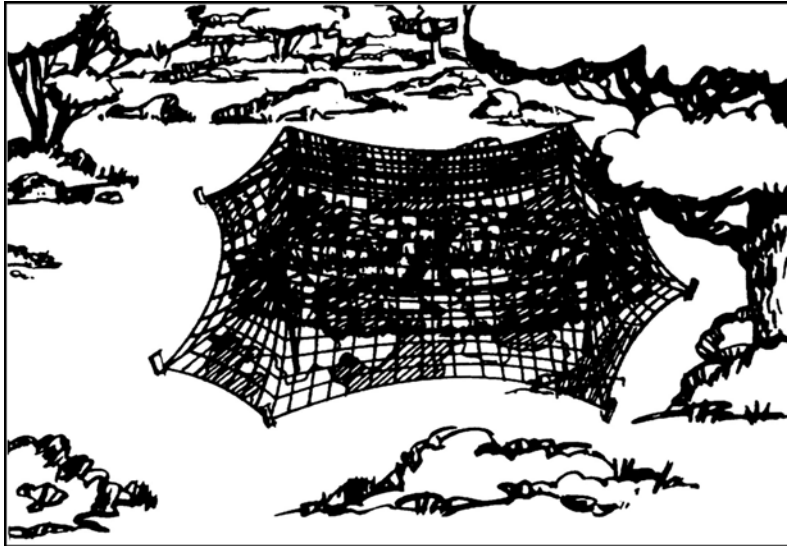
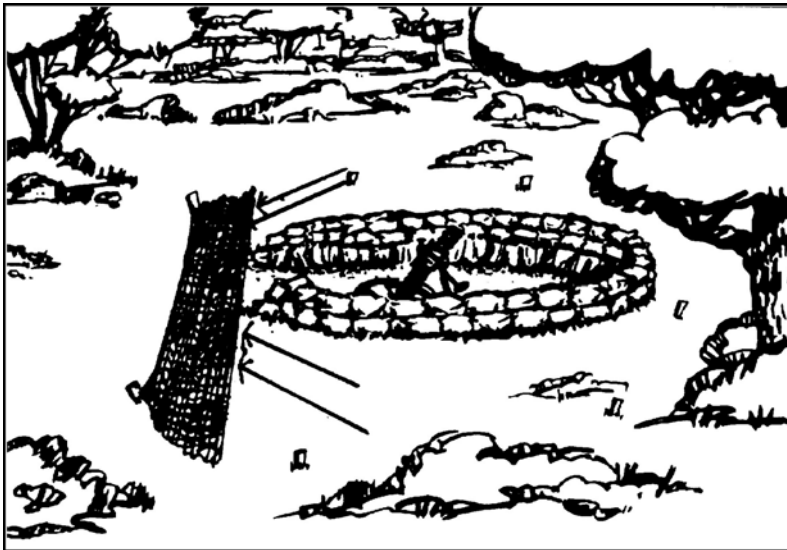

Figure 3. Net With Sides and Corners Staked Down
Figure 4. Net Released From Stakes
- (4) In using nets to camouflage the mortar position, set up and secure the side of the net in the direction of fire so that it can be dropped quickly to let the mortar fire.
- (a) In the ground-mounted or carrier-mounted role, place two poles on the direction-of-fire side of the net just even with or forward of the front edge of the mortar position with the corners staked down (Figure 3). When a fire command is given, two crew members release the net from the stakes. Then, using the two front poles, they lift the net over and lay it behind the mortar (Figure 4).